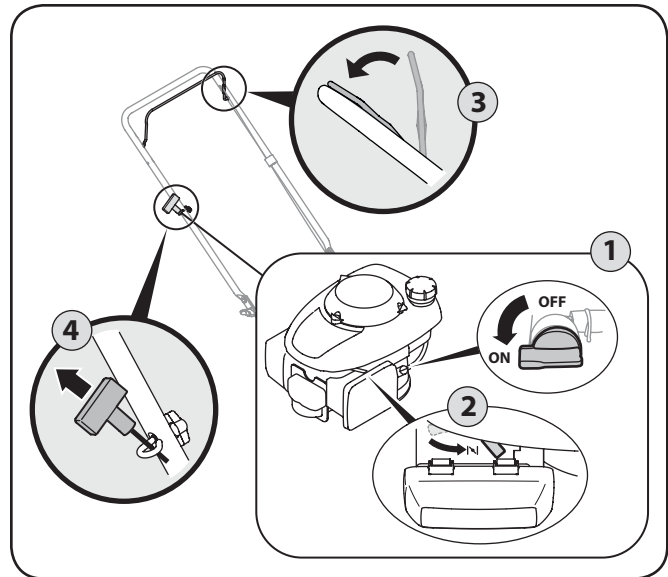

Figure 5-1
1. Place the fuel valve lever found on the left side of the engine into the ON (OPEN) position, Fig. 5-1.